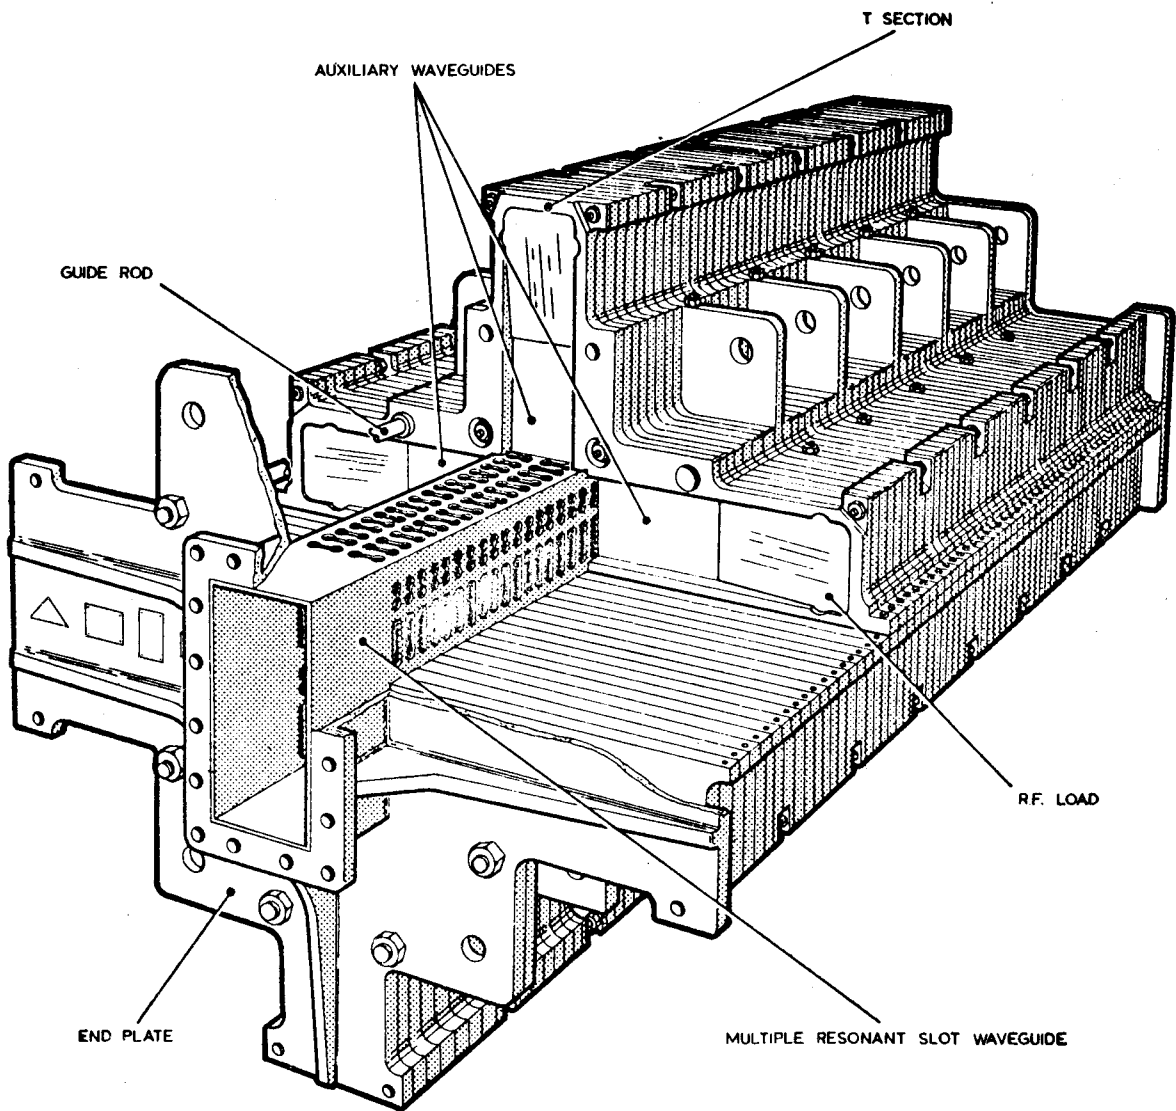

Fig.4A Harmonic filter: construction
16. *Mechanical construction (fig. 4A).* The harmonic filter assembly is approximately 4 ft long and 2 ft square, weighing 600 lb. Basically it is constructed from a length of rectangular aluminium waveguide, size No. 6, perforated on all faces with rows of broadband resonant slots. Machined cast aluminium T-sections are assembled on eight guide rods round the main waveguide. The T-sections form sets of short auxiliary waveguides, two on each broad face, and one on each narrow face, into which the resonant slots couple. The subsidiary waveguide channels thus formed are terminated in lossy ceramic wedge-type r.f. loads of very broadband performance. The broad dimensions of these auxiliary waveguides is such that they are cut-off for the fundamental frequency, and so only a small amount of the fundamental frequency power passes to the loads.